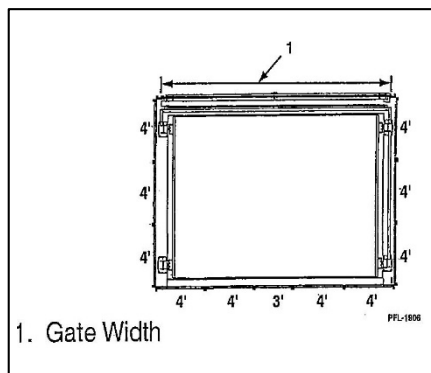

Figure 1
1. Modifications for site obstructions are best done in the field by the installer. **See Figure 1.**